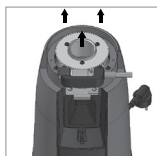

Fig. 6
7. Unscrew the three fixing screws from the crown wheel (fig. 6).